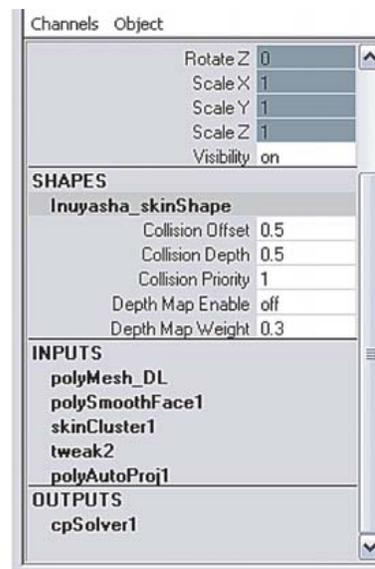

Figure 1.14: Collision Object attributes. The output goes to the *cpSolver1* node.
2. Look under the shape node in the Channel box. You should see several collision-related attributes, as in Figure 1.14. Set **Collision Offset** and **Collision Depth** to 0.5. These values tell the cloth solver how much distance to keep between the garment and the collision object. Measured in centimeters, 0.5 is enough of a buffer to prevent the collision object from poking through the skirt but is small enough to keep it from looking puffed out around the collision model.